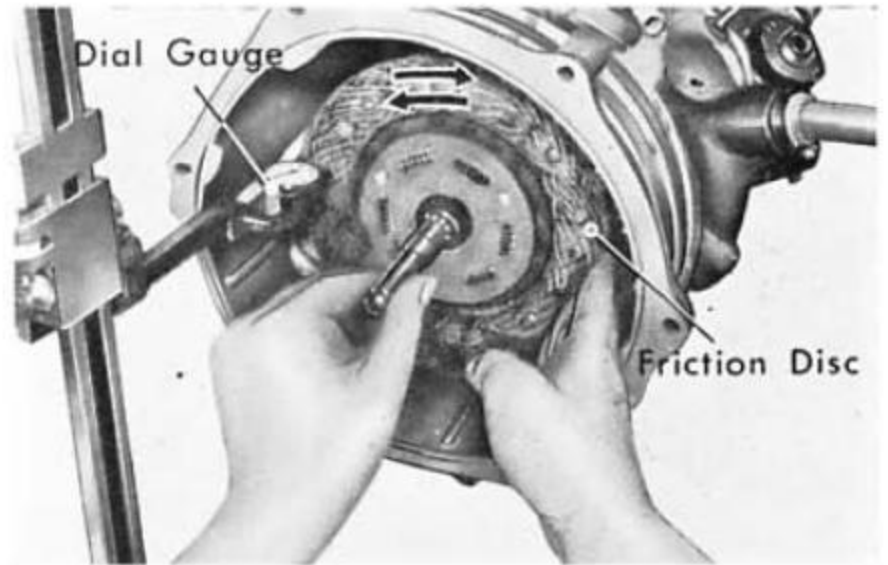

Fig. 5A-9
10. Inspect the clutch friction disc run-out and the wear of the lining (Fig. 5A-10).